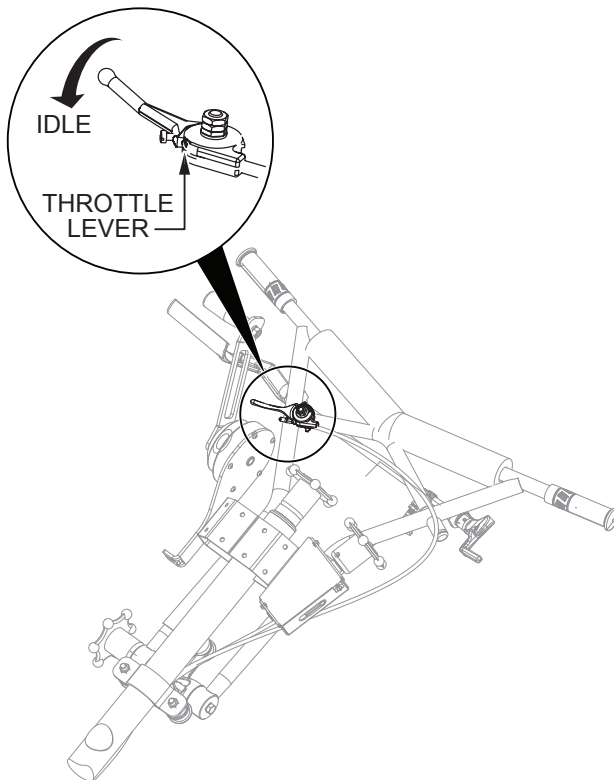

Figure 52. Throttle Lever (Idle)
2. Return the throttle lever to the **IDLE** position (Figure 52) and let the engine run for three minutes at low speed.